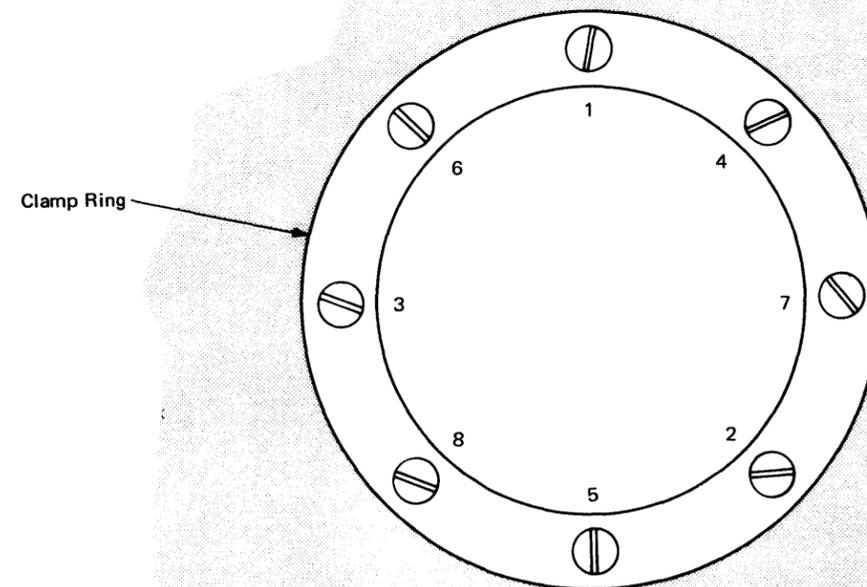

Figure 2-15. Replacement Details – New Fixed Disk [07540]
5. Unscrew the eight screws around clamp ring (see Figure 2-15) and remove it. Store flat, protected by tissues, part 2200200.
4. Clean *lower* surface of disk with the tissue as shown in Figure 2-15, then dry the surface with dry tissues in a similar manner. (The disk has "TOP" written on the inner diameter to identify the upper surface.)
6. Place clamp ring in position and, fitting new plastic washers provided, insert the eight screws. Do not trap the paper protector under the ring. Tighten the screws in sequence shown in Figure 2-15 with torque screwdriver, part 2597968.